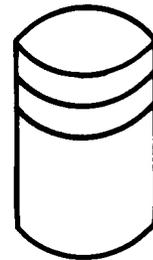

Fig. 21—Magnetic Disc Symbol
2.21 **The magnetic disc symbol** (Fig. 21) represents an input/output function in which the medium is magnetic disc.